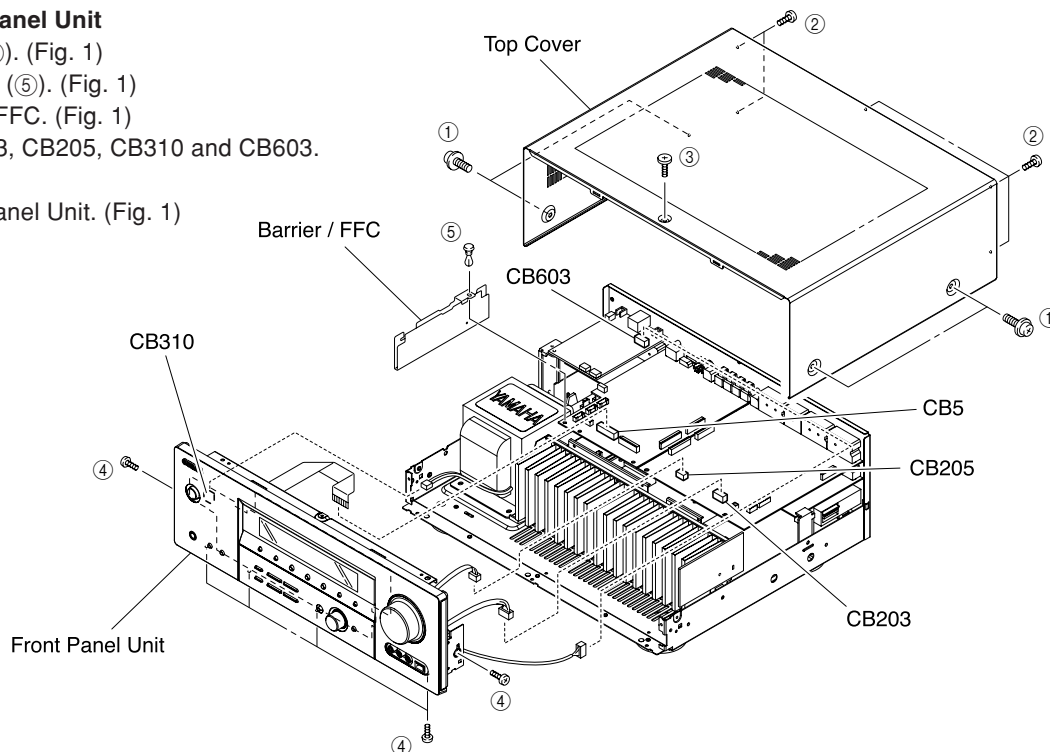

Fig. 1
- a. Remove 4 screws (①), 5 screws (②) and 1 screw (③). (Fig. 1)
- b. Slide the Top Cover rearward to remove it. (Fig. 1)
- a. Remove 6 screws (④). (Fig. 1)
- b. Remove 1 push rivet (⑤). (Fig. 1)
- c. Remove the Barrier/FFC. (Fig. 1)
- d. Remove CB5, CB203, CB205, CB310 and CB603. (Fig. 1)
- e. Remove the Front Panel Unit. (Fig. 1)